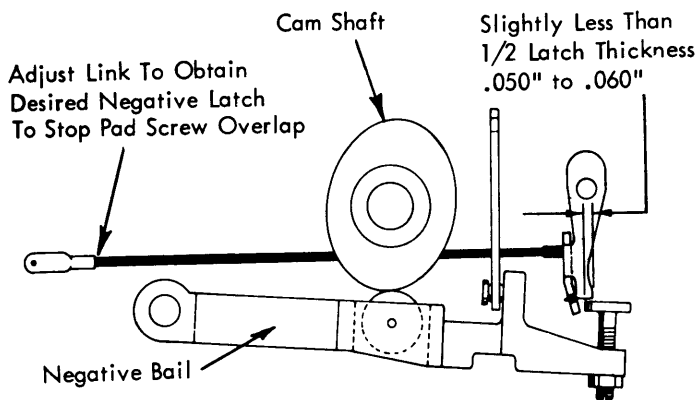

FIGURE 17. Negative Latch Link
a. With the machine at rest adjust the negative 5 latch link so that the negative 5 latch will overlap the stop screw head by .050" to .060" (Fig. 17).